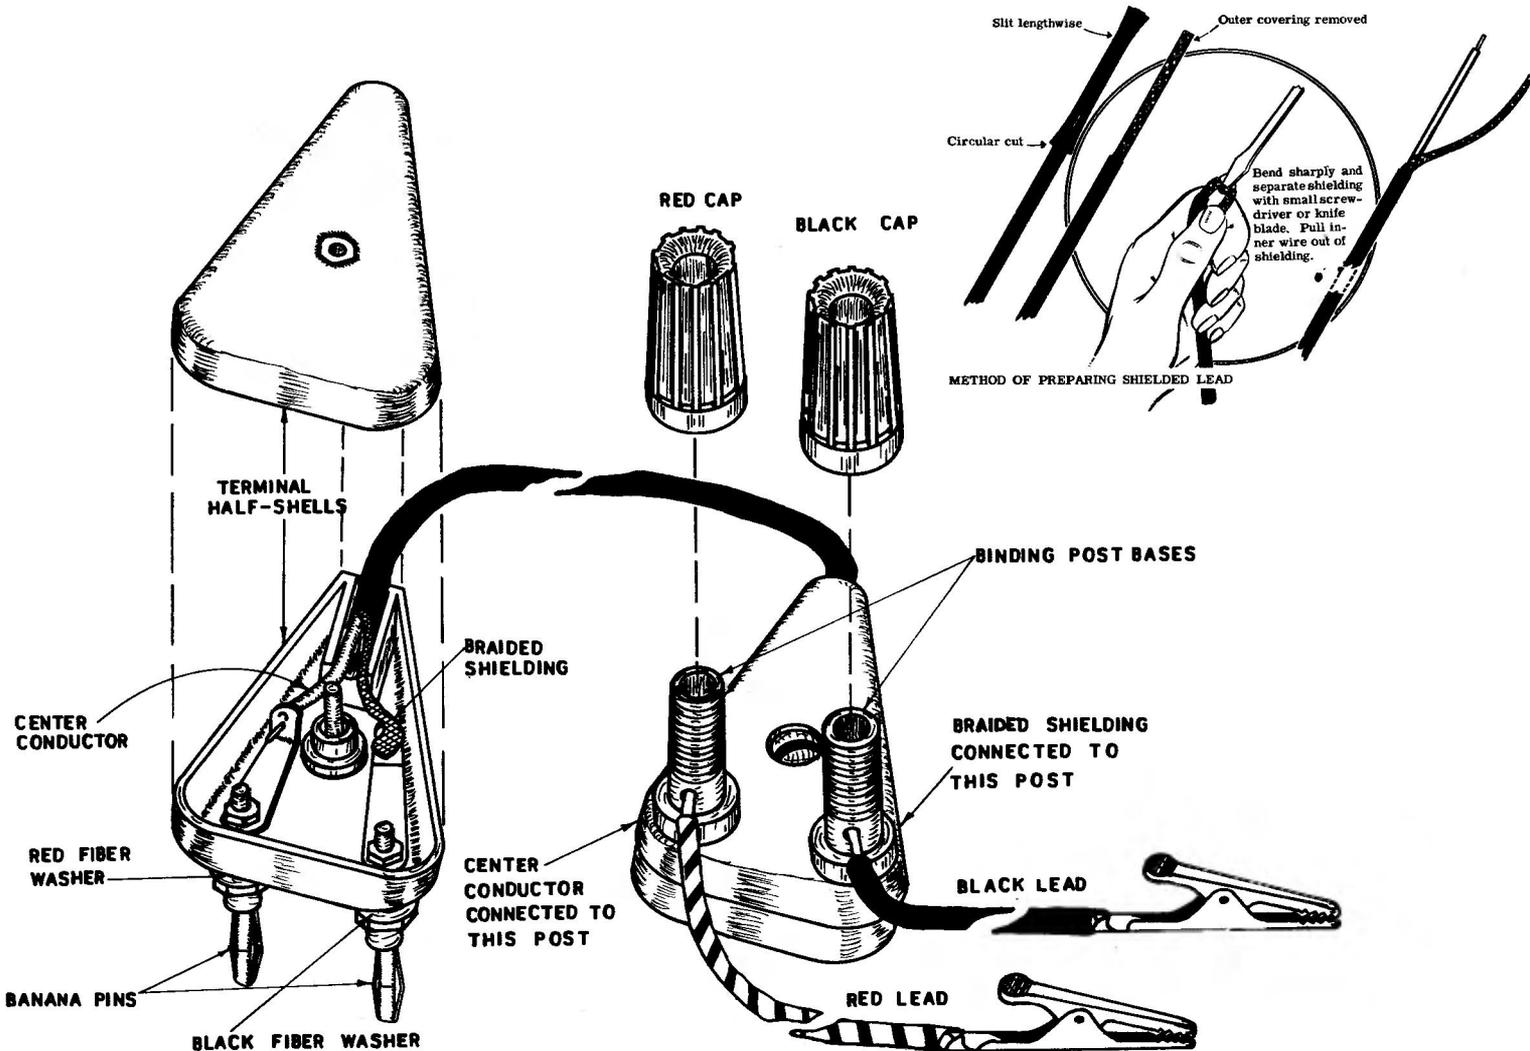

Figure 10
See Figure 10 for the following:
- ( ) Install two banana pins through the mounting holes of a terminal half-shell with a fiber washer (red or black) on the outside and with a #6 solder lug and 6-32 nuts on the inside. Install the red fiber washer and the black fiber washer on the same sides as shown in Figure 10.